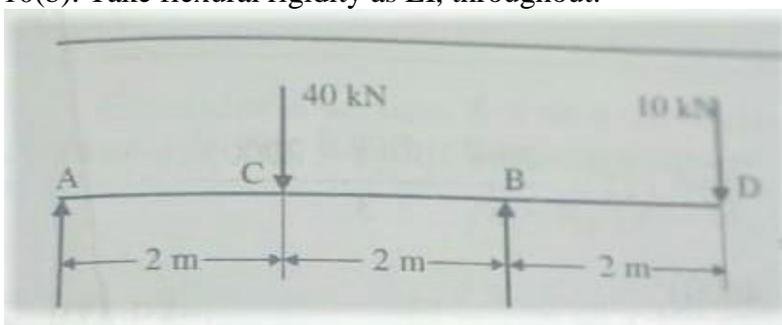

Fig Q 10(b)
- b. Determine the deflection under the loads in the beam shown in Fig Q 10(b). Take flexural rigidity as EI, throughout. **10** (3 :5 : 2.2.4)